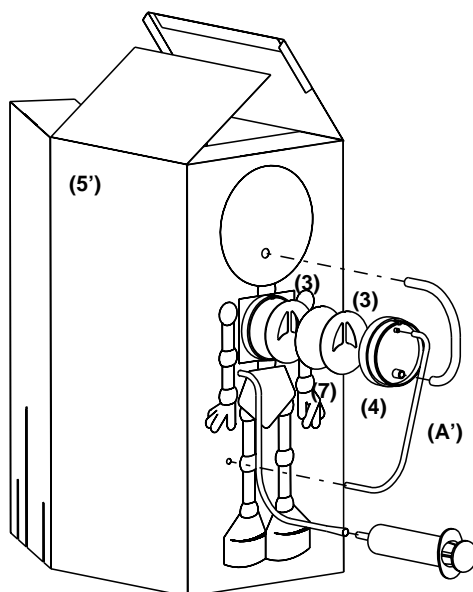

Figure 2
- Assemble the enclosure as shown in Figure 2: fold the four sides of the enclosure and insert the flaps in the slots provided. Leave the lid open in order to continue with the assembly.
- Slide this assembly into the front cover of the enclosure; it should protrude from the outside face of the enclosure. The lungs are now in place (see Figure 2).